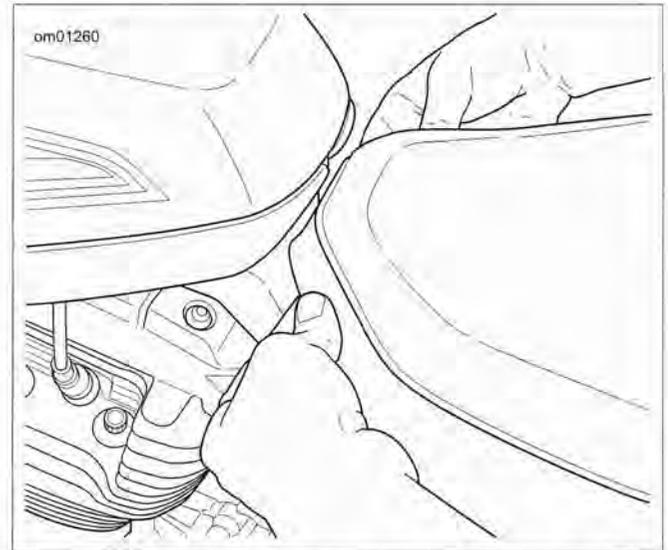

Figure 2-221. Front Seat Tabs (under tail section): XR 1200X
1. See Figure 2-221. Reach under front end of tail section and press the two seat tabs inward.